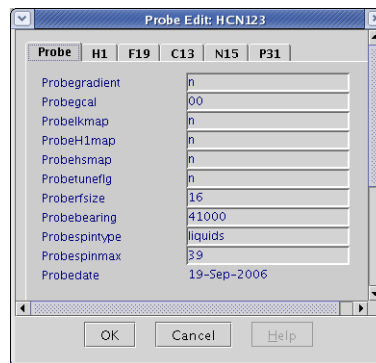

Figure 16. Probe File Edit Window
4. Click to check the **Edit** button — editing options appear in the Probe window, see **Figure 16**.